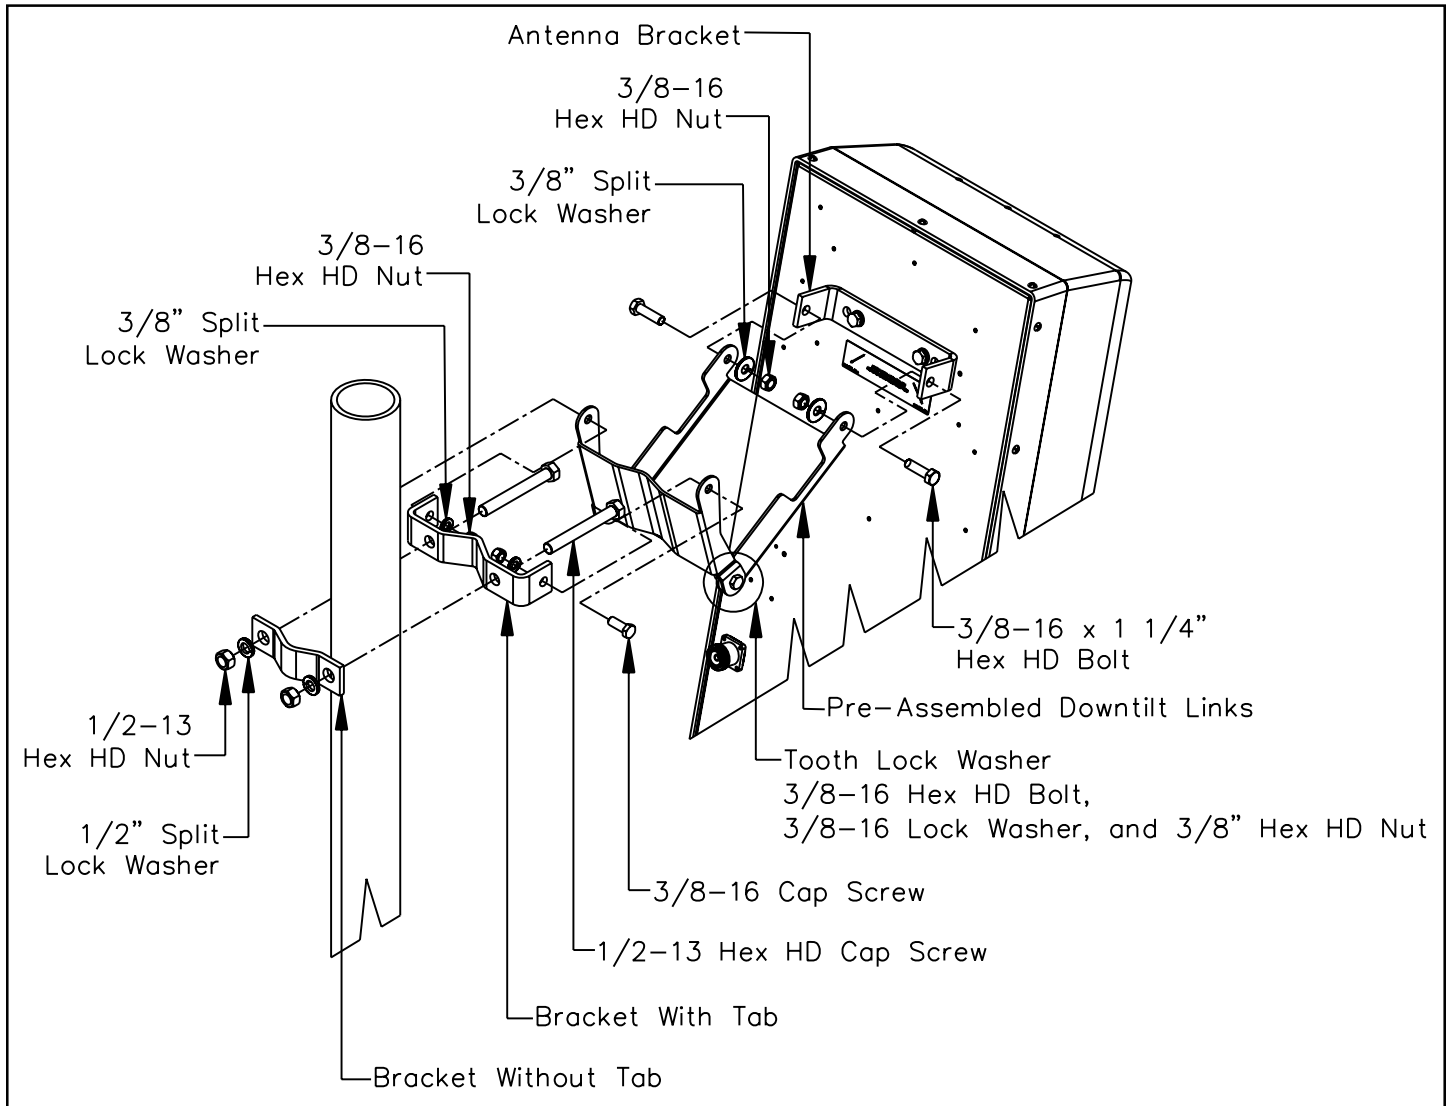

Figure 5. Downtilt Mounting Using DB380/DB380-3 Pipe Mount Kit with DB5083/DB5083D Downtilt Kit.
2. Use hand wrenches to pre-assemble the bracket links provided with the downtilt kit (Table 2 and Figure 5).
3. Attach the assembled downtilt bracket to the top antenna bracket and to one of pipe brackets with tabs with its 1/2–13 hex head cap screws inserted (as discussed in Step 4 of the DB380/DB380-3 installation procedures) using the 3/8–16 hex head cap screw, nut, and 3/8" split lock washer.. Refer to Figure 5.